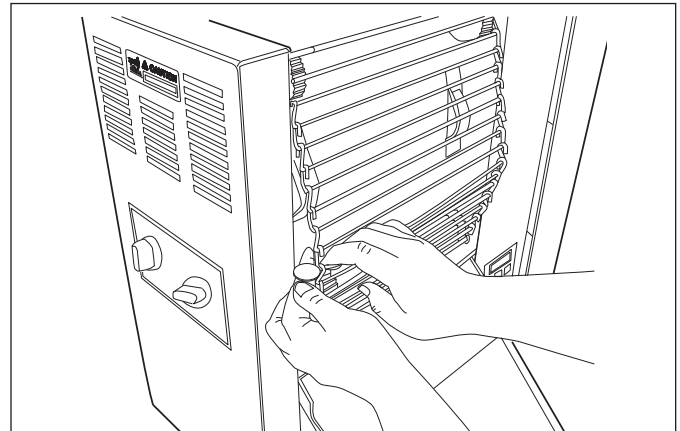

Figure 10. Measuring Conveyor Belt Chain
6. Pull the chain away from the edge of the toaster (Figure 10).
7. Stand a U.S. Dime on end between the frame and the chain (Figure 10).